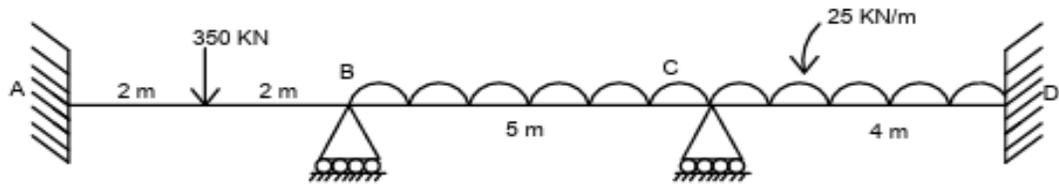

Fig.4
14. Analyze the beam shown in Fig.4 using Matrix stiffness method. Draw BMD and SFD. 16 CO4 [K4]